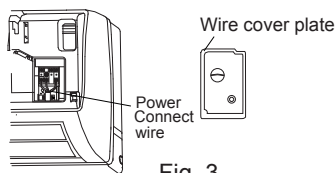

Fig. 3
2. Take off fixing bolts of wire cover plate to take off the plate (as shown in fig.3).